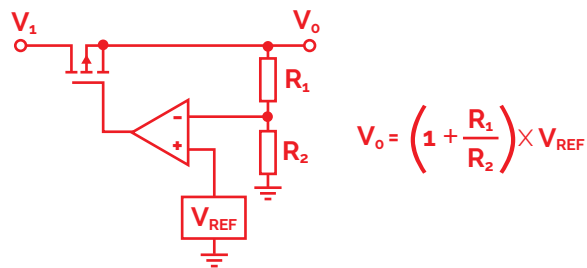

Figure 18. Simplified diagram of a linear series regulator.
Greater sophistication in linear regulation is achieved with a series design that uses a pass transistor to regulate the load current and drop the input voltage to the required output level. This concept is shown in figure 18 and such designs are typical of integrated circuit (IC) regulators and also low drop-out (LDO) regulators, which often provide a regulated supply at the "point of load".